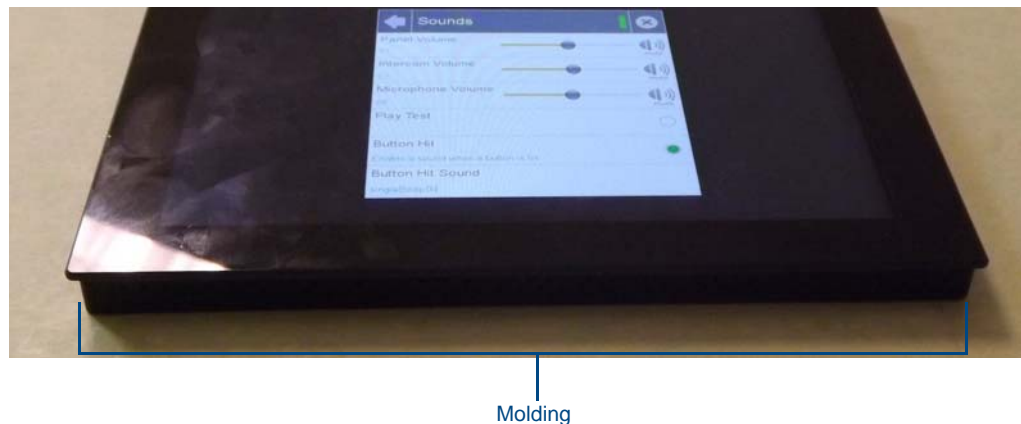

FIG. 21 Underside of MXD-700
The MXD-700 is held in place to the back box via latch hooks and clips on the back box (FIG. 21), securing it to the mounting surface. In certain circumstances, such as firmware updates or other maintenance that requires accessing the device's USB port, the device may need to be removed from the back box. The clips that lock down the MXD-700's bottom edge (Landscape) or right edge (Portrait) may be unlatched in order to remove the device from the mounting surface.
1. The bottom (Landscape) or right side (Portrait) of the MXD-700 has a series of ventilation holes along the molding (FIG. 21). From each end, count to the fifth holes on the center row.